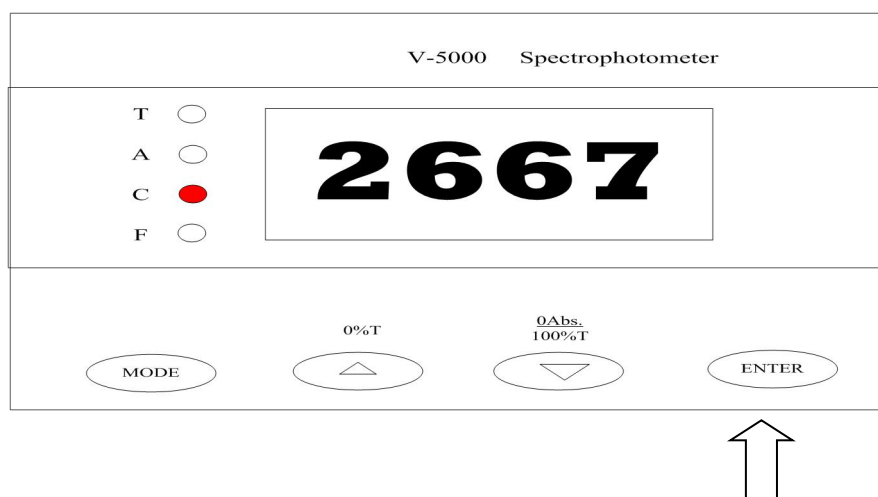

Fig.1-5
- b. When in **F** mode, to confirm the current **F** value, and then the Mode was switched to **C** automatically, and the **C** value will be calculated ($C = F * A$). (Fig.1-5)